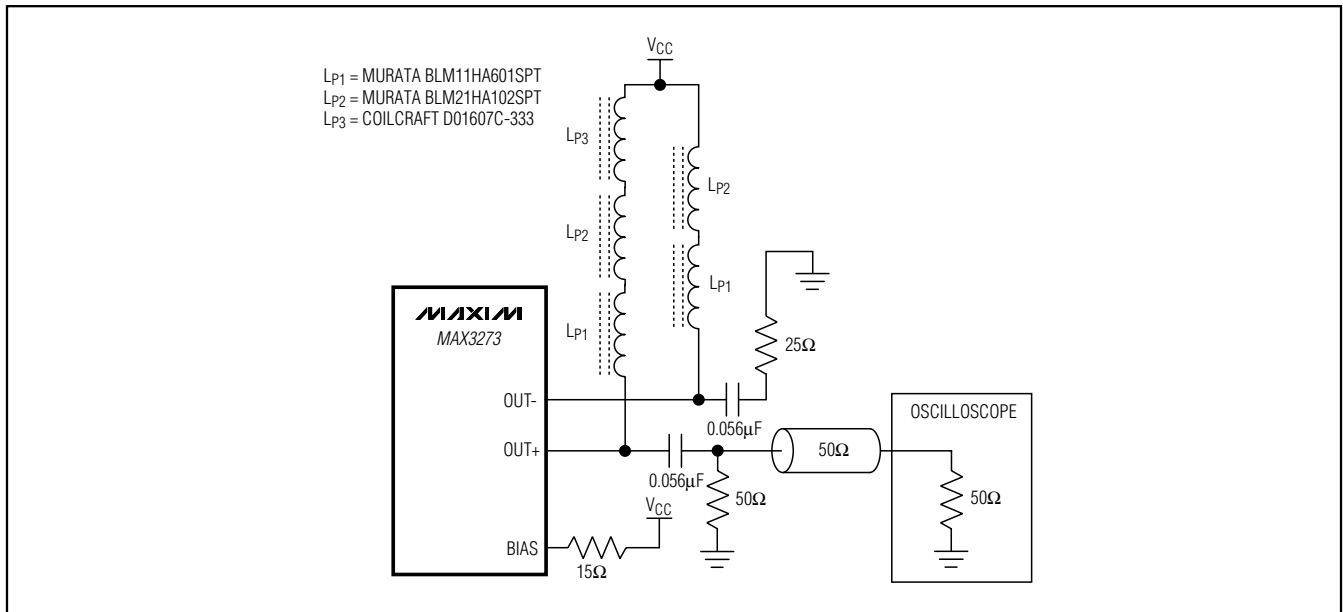

Figure 2. Output Termination for Characterization
**Note 5:** AC characterization was performed by using the circuit in Figure 2.